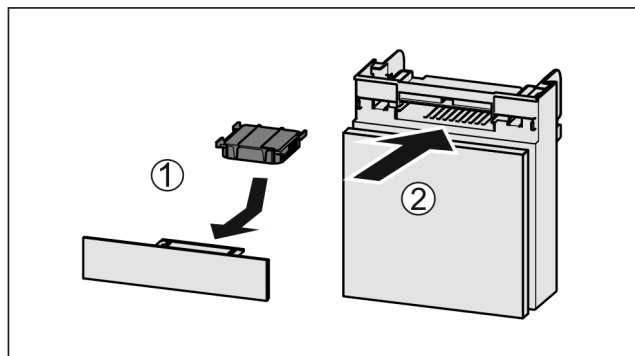

Fig. 123
- Insert the carbon filter as shown in the diagram Fig. 123 (1).
- Push the compartment in Fig. 123 (2).